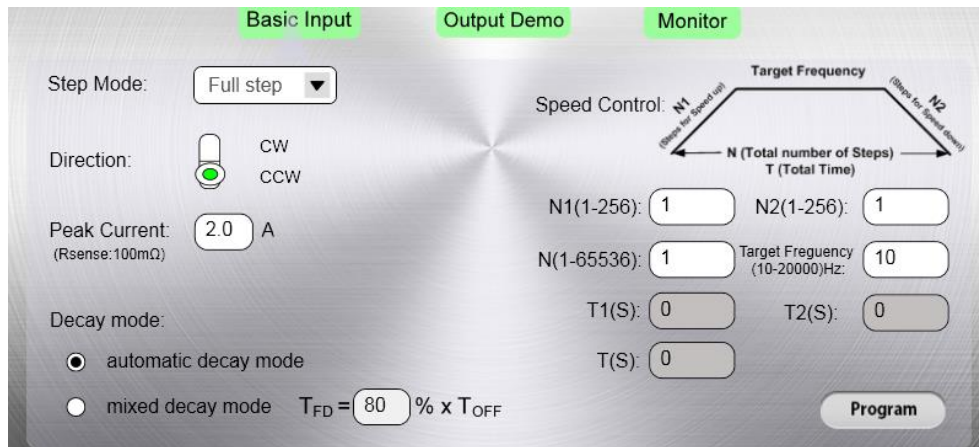

Figure 3: Basic Input Page
- Click the “Basic Input” button. Figure 3 shows the screen below that should be displayed. Step mode (from eighth-step to full-step) and the step direction are now selectable.